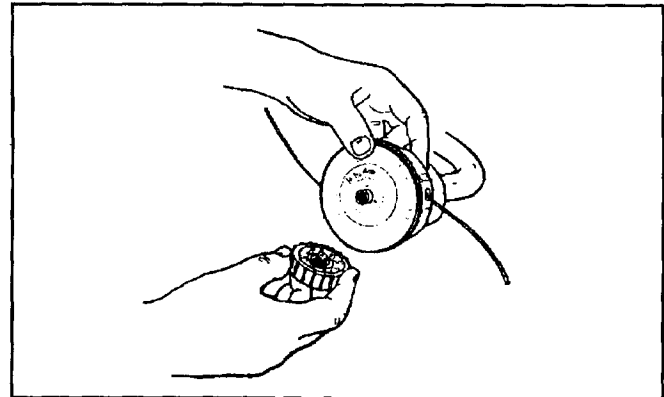

Fig. 11
2. Hold the outer spool with one hand and unscrew the Bump Knob **counterclockwise** (Fig. 11). Assure the bolt retained inside the Bump Knob moves freely. Replace the Bump Knob if it is damaged.
2. Secure the line spool in place with the Bump Knob and bolt assembly. Tighten the knob and bolt **clockwise** (Fig. 11).